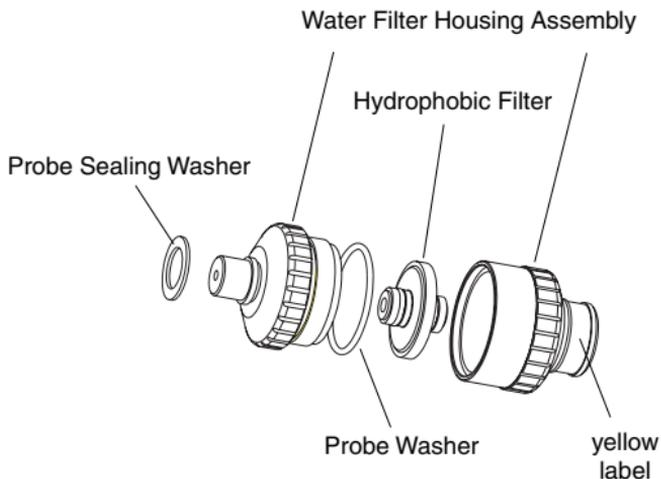

Fig. 5-11 Water Filter Assembly
1. Unscrew the filter housing assembly (Fig. 5-11).